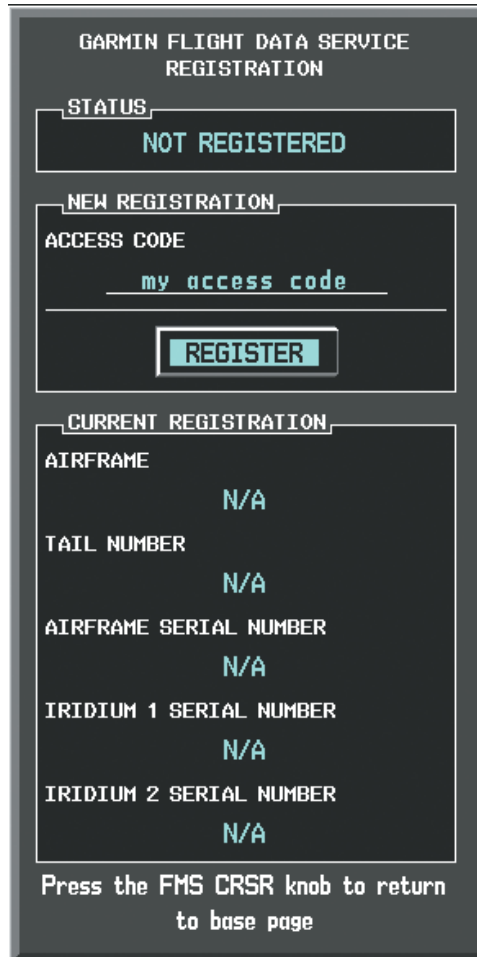

Figure 8-75 Enter Access Code
- 7) Press the **ENT** Key. The Garmin Flight Data Service Registration window is now displayed as shown in Figure 8-75.
- 9) Press the **ENT** Key. REGISTER will now be highlighted as in Figure 8-75.